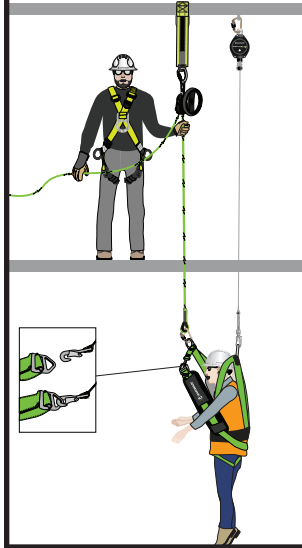

Figure 5:
4. The fallen worker can then be raised or lowered by means of a hoisting method to an adequate elevation for other rescuers to secure the individual (Figures 5 & 6).